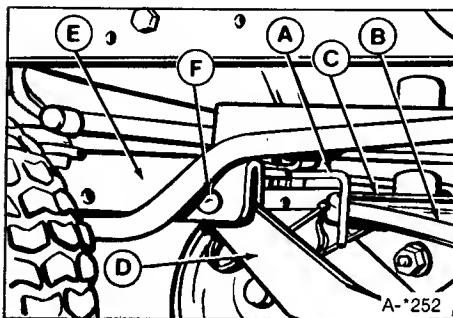
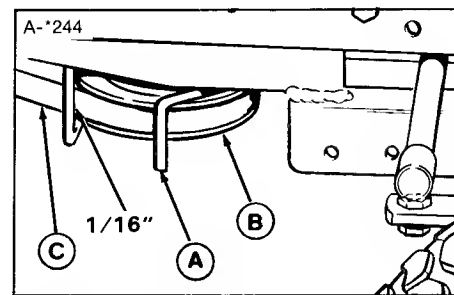
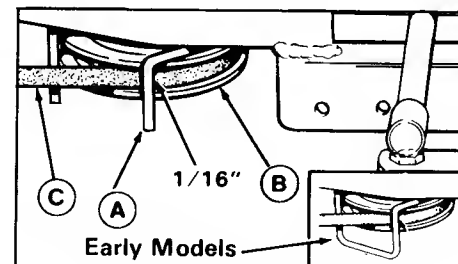

Figure 3. L.H. Belt Stop
Figure 5. Right-Hand Belt Stop - 42" Mowers
Figure 5A. Right-Hand Belt Stop - 36" Mowers
8. Lift up front of mower and insert pins (F, figure 3) to attach mower hitch arms to tractor hitch (E). (You can insert a pry bar under front edge of deck to raise.)
10. Slip the mower drive belt onto the engine PTO pulley loosening belt stops as necessary. The left-hand belt stop is shown in figure 3. The right-hand belt stop for 42" mowers is shown in figure 5. The right-hand belt stop for 36" mowers is shown in figure 5A. Position belt stops 1/16" from belt.